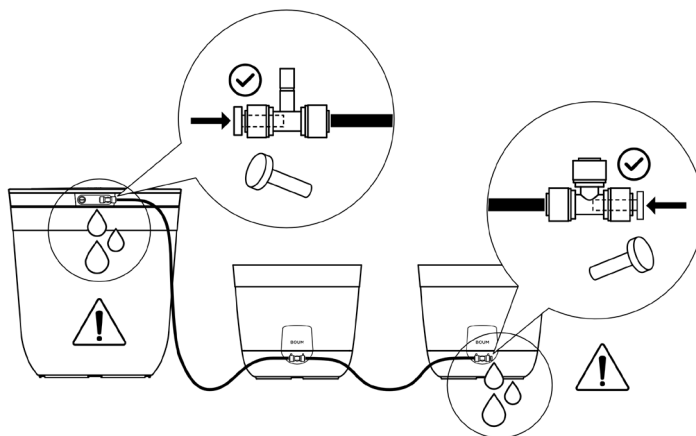

Figure 10
1. Unroll the black hose supplied with each Boum Pot and cut it to the desired length (distance between Boum Controller and the first Boum Pot) using the Boum Quick-Connect Tool. Insert the Female-Female-Male Quick-Connect T-Piece into the hose connector on the Boum Controller, close one of the Quick-Connect openings with an end plug and connect the second one with one of the holes in the T-Pieces of the first pot using the black hose. Connect further Pots similarly in a serial manner. Like this, you can extend your System with up to 12 Pots. Important: **Close the free hole on the last pot with an end plug (see Fig. 10). Make sure that all Quick-Connect openings are closed or connected so that no water leakage occurs at the first pump test.**